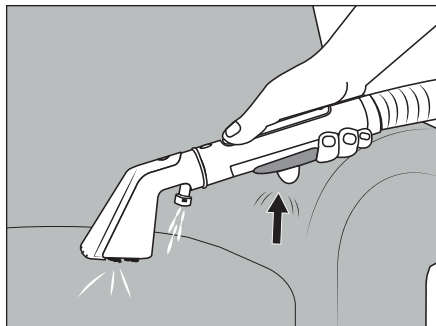

Fig. 6
(2) Before cleaning, check the upholstery / carpet manufacturer's label for special care instructions. The appliance is not suitable for sensitive textile fabrics (e.g. silk, leather, flokati).
(3) When using cleaning agents (vinegar-based cleaners and upholstery cleaning agents), always test how the appliance performs on an unobtrusive spot to ensure that no discolouration occurs.
(4) The appliance must be properly assembled before operation, and the fresh water tank ②  must be filled.
(5) Switch off the appliance before swapping the upholstery nozzle ②② and crevice nozzle ②⑨.
(6) If the dirty water tank ⑦  is full, the float ⑥ closes the suction opening and the appliance runs at increased speed. Switch off the appliance immediately (see section **Cleaning the dirty water tank**).
(7) Fold the carrying handles ⑩ upwards and carry the appliance to the place where you need it.
- ◆ Hold the upholstery nozzle 22 2-3 cm above the area to be cleaned and press the spray button 20 to apply water / cleaning solution from the spray nozzle 26 (see Fig. 6).